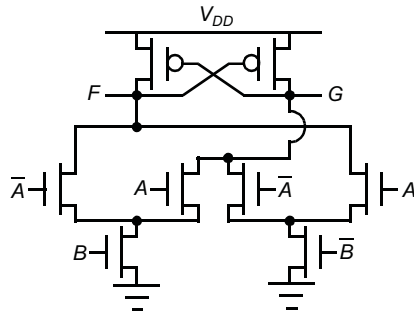

Figure 6.6 Two-input complex logic gate.
10. [E, Layout, 4.2] A complex logic gate is shown in Figure 6.6.
- c. Assuming $W/L = 0.5\mu/0.25\mu$ for all *nmos* transistors and $W/L = 2\mu/0.25\mu$ for the *pmos* transistors, produce a layout of the gate using Magic. Your layout should conform to the following datapath style: (1) Inputs should enter the layout from the left in polysilicon; (2) The outputs should exit the layout at the right in polysilicon (since the outputs would probably be driving transistor gate inputs of the next cell to the right); (3) Power and ground lines should run vertically in metal 1.